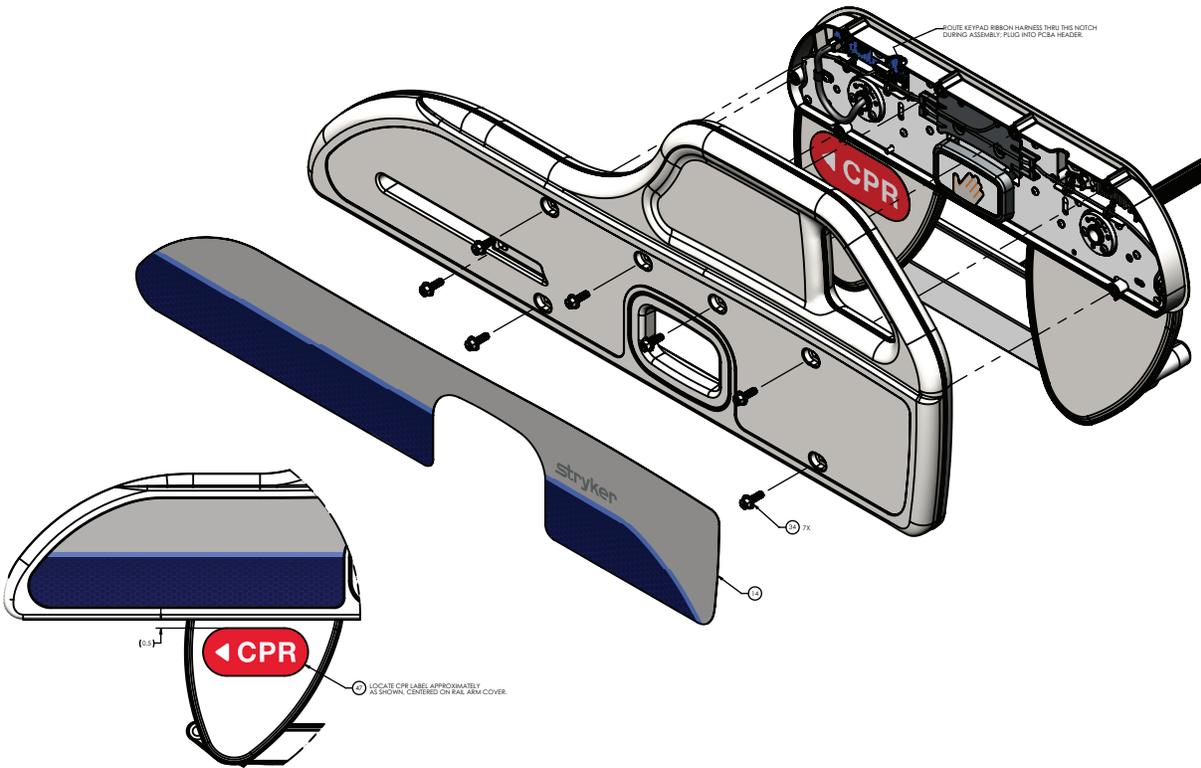

Figure 44 – Foot siderail control board replacement, patient right
6. Using a pick, remove and discard the outer siderail label (14) (Figure 44).
7. Using a 3/8" nut driver, remove and save the seven bolts (34) that secure the siderail hoop to the siderail assembly (Figure 44).